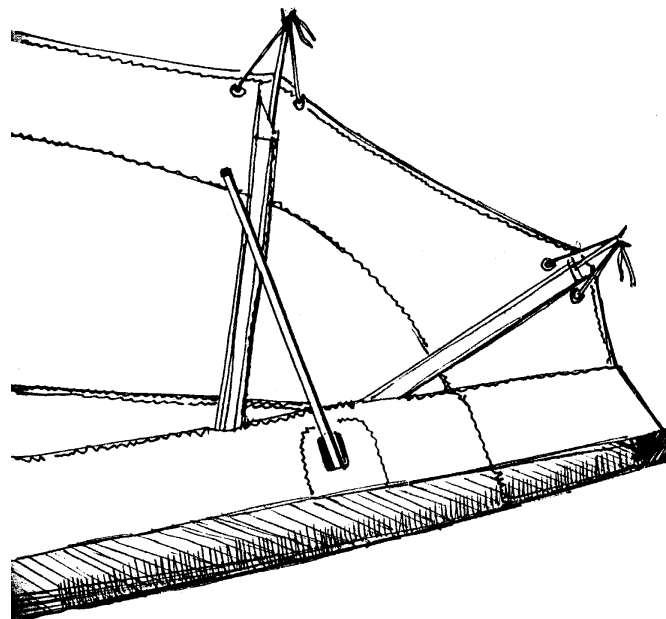

Fig.40
2.4.12. Check that washout tips are secured in the sockets in the leading edge tubes (Fig.40).